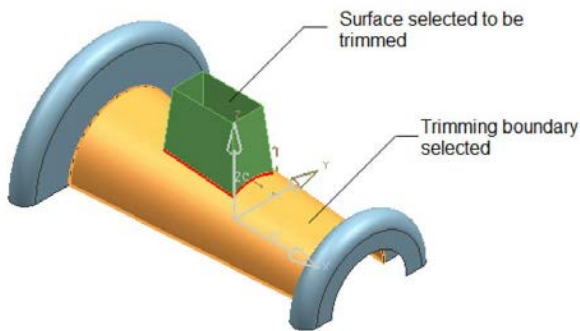
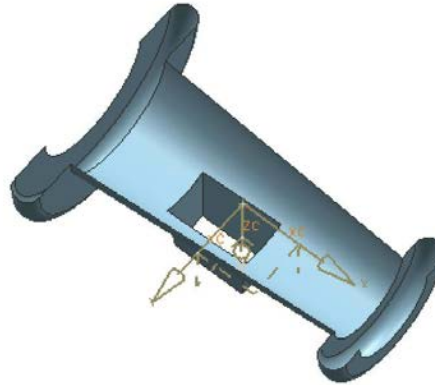

Figure 10-103 The surface to be trimmed and the trimming surface
Figure 10-104 The resulting surface after trimming the extended portion of the extruded surface
- Trim the extended part of the third feature, refer to Figures 10-103 and 10-104.
2. Select the sheet to be trimmed, as shown in Figure 10-103, and then press the middle mouse button; you are prompted to select the boundary objects.
3. Select the trimming surface, as shown in Figure 10-103. Select the **Keep** radio button from the **Region** rollout and then choose the **OK** button. The resulting surface after trimming the extended portion of the extruded surface is shown in Figure 10-104.